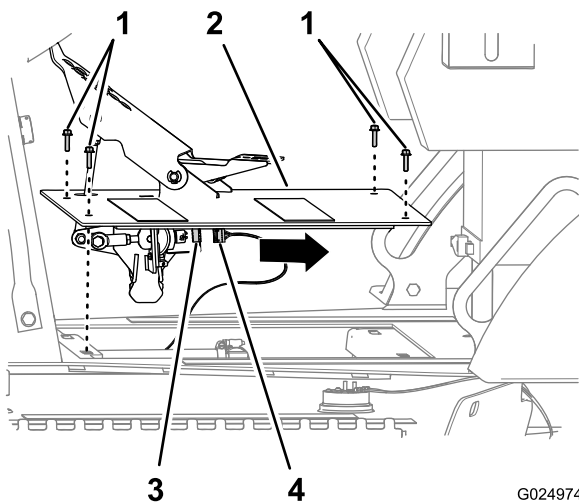

Figure 110
1. Remove the 4 hex-flanged head bolts that secure that traction-pedal assembly to the chassis of the machine (Figure 110).
2. Disconnect the 6-socket connector of the machine harness from the 6-pin connector of the traction-pedal sensor (Figure 110).
3. Remove the traction-pedal assembly from the machine (Figure 110).
1. Connect the 6-socket connector of the machine harness to the 6-pin connector of the traction-pedal sensor (Figure 110).
2. Align the holes in the plate of the traction-pedal assembly with the holes in the chassis of the machine (Figure 110).
3. Secure the traction-pedal assembly to the chassis of the machine with the 4 hex-flanged head bolts (6 x 25 mm); refer to Figure 110.